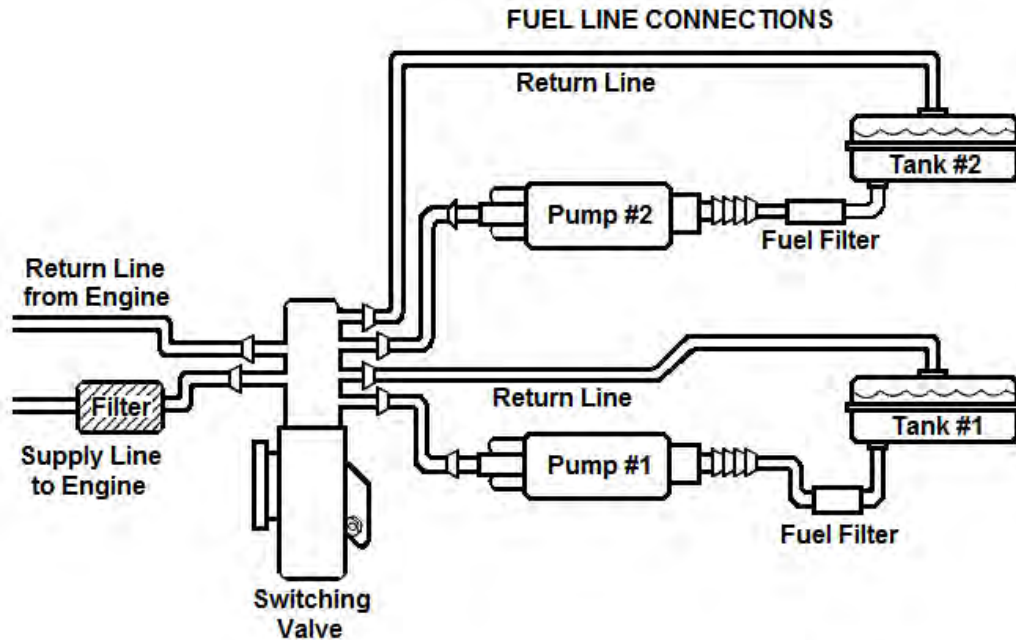

Figure 3: Dual Pump Installation
6. Attach the outlet side of each fuel pump to the selection valve with 3/8" I.D. J30d fuel line as shown in Fig. 3.
7. Attach the fuel return outlets of the switching valve to each of the fuel tanks with 5/16" I.D. J30d fuel hose as shown in Fig. 3.